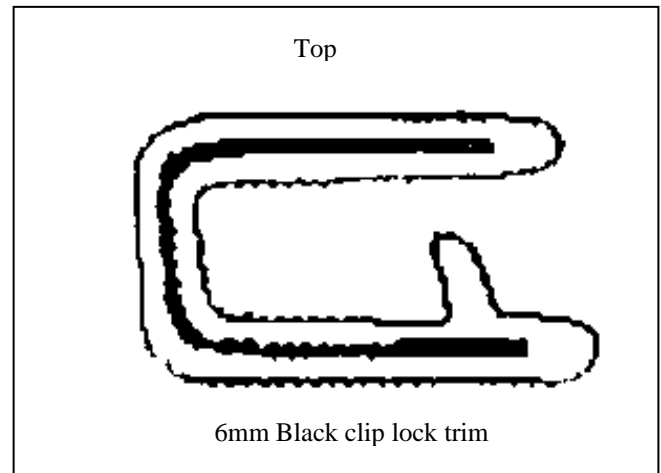

Figure 8
22. Attach 6mm clip lock trim (supplied) to top of ECB Protection Bar. **NOTE:** Trim off lower edge on an angle so trim will sit flush with end of protection bar. **See figures 8, 9 and 10.**